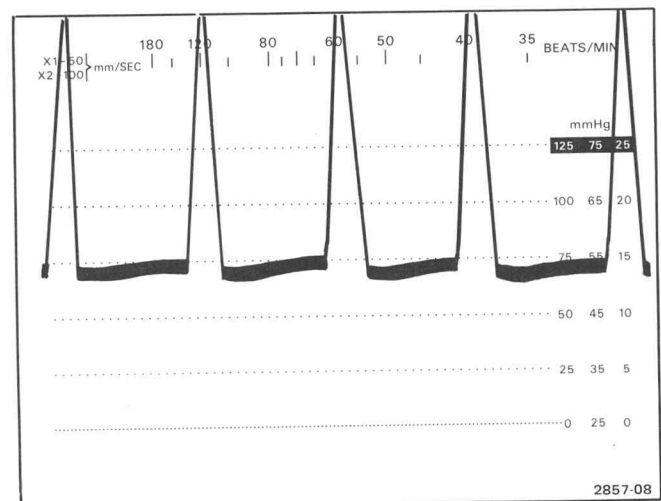

Figure 2-3. Adjusting Horizontal Width and Position.
c. **ADJUST**—Horizontal Position (R1835) until rising edge of fourth pulse coincides with 40 bpm graticule mark. See Figure 2-3.
d. **ADJUST**—Horizontal Width (R1845) until rising edge of second pulse coincides with 120 bpm graticule mark. See Fig. 2-3.